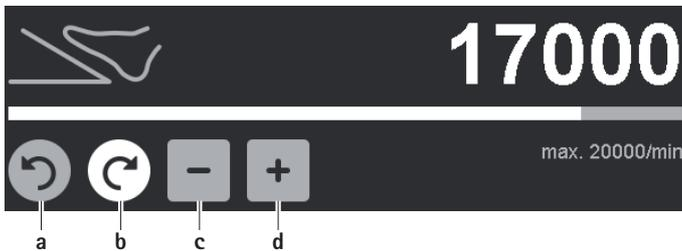

Fig. 6 Changing the maximum speed setting/rotational direction
- Change the rotational direction: Activate the inactive, gray rotational direction button for clockwise/counterclockwise rotation **a/b**, see Fig. 6.